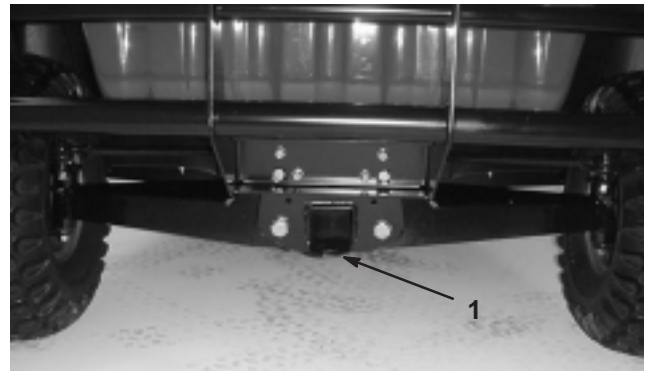

Figure 14
2. Affix a tow line to the tongue on the front of the frame (Fig. 14).